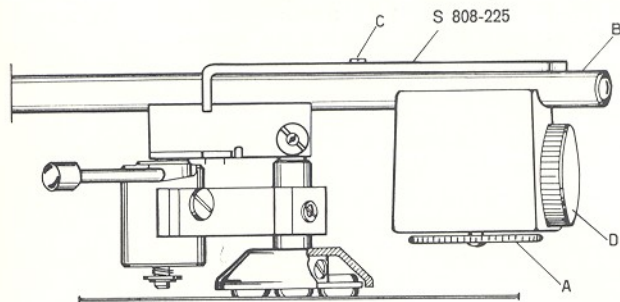

Fig. 8. Rear part of the pick-up arm.
- a) Place the counterweight underneath the pick-up arm extension B, the sliding tube entering the corresponding hole on the counterweight (see Fig. 8).
- a) Place the stylus force calibration plate (part S 808-225) on top of the pick-up arm extension B according to Fig. 8 and 9, with pin C on the arm extension in the slot of the calibration plate. **Position the calibration plate with pin C in the indentation of the scale corresponding to the stylus force recommended by the cartridge manufacturer. Each indentation corresponds to  $\frac{1}{4}$  gram.**